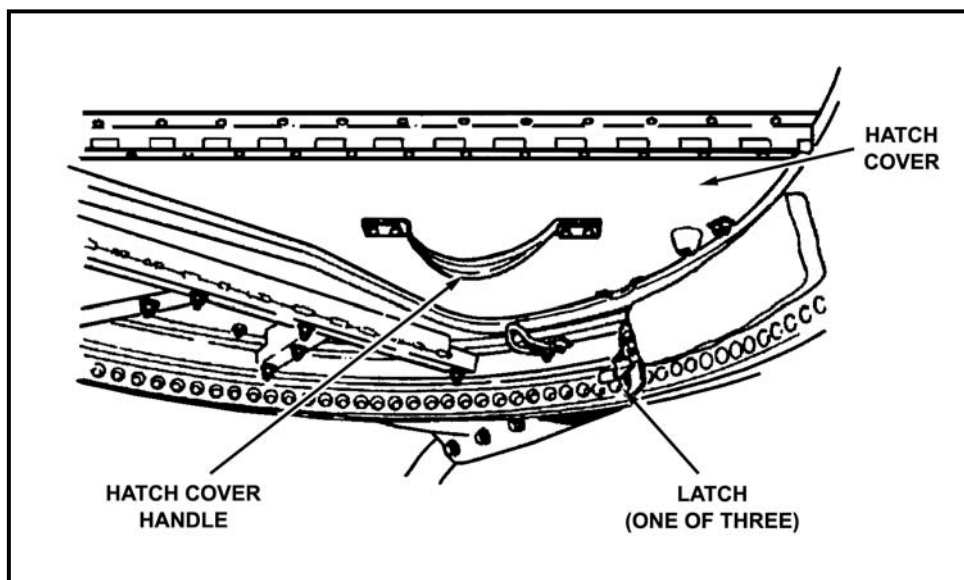
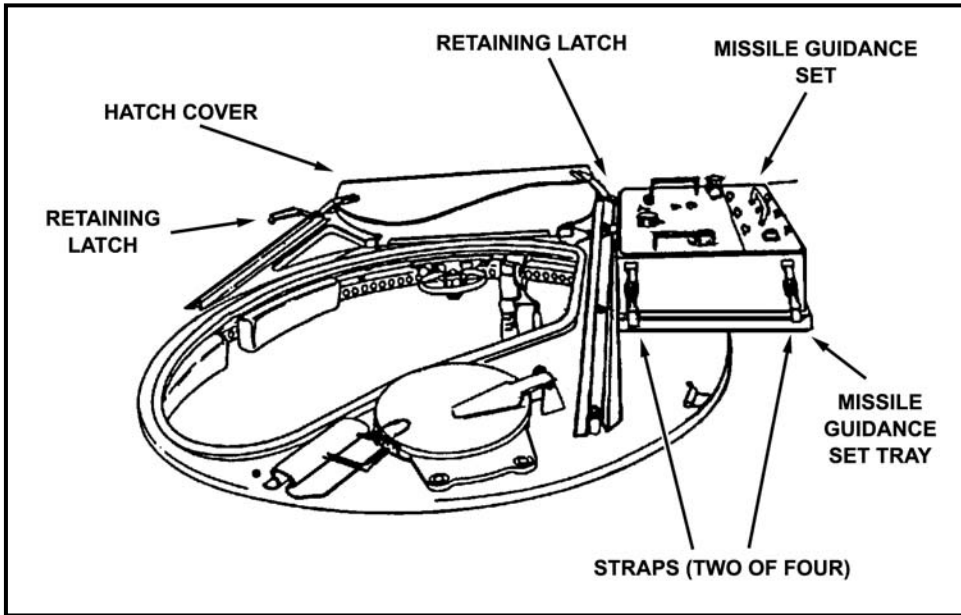

Figure 3-5. Hatch cover and latch.
Figure 3-6. Hatch cover retaining latches and MIGS tray.
a. The gunner, driver-loader, and squad leader release the latches securing the hatch cover (Figure 3-5). The driver-loader enters the right rear passenger door.
(1) The gunner unlatches the retaining strap securing the MGS.
(2) The gunner releases the latches to remove the MGS cover and hands the cover to the squad leader.
(3) The squad leader stows the MGS cover in the front passenger's footwell of the vehicle.
(4) The gunner tilts the MGS to the vertical position on the gunner's platform and releases the lower coupling clamp on the traversing unit adapter.
d. The gunner lifts the MGS through the weapon station, places it on the MGS tray, and secures it with the straps (Figure 3-6, page 3-8).